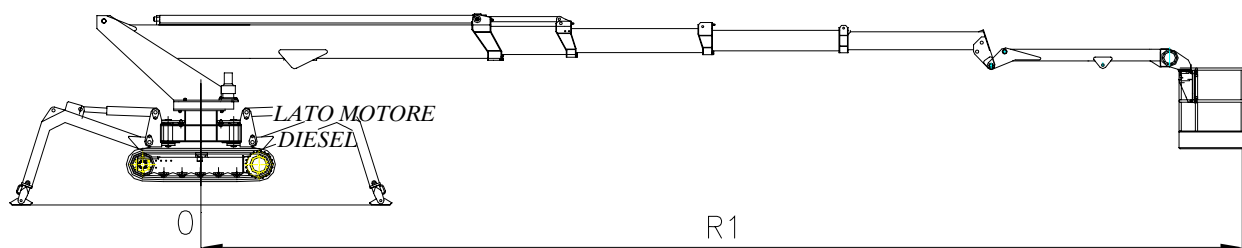

Fig. 6.8
- now check the distance from the slewing rotation centre to the edge of the cage (R1 of Fig. 6.8) is like the comparative value showed in the following table “max outreach for Ragni” with a max tolerance of 300 mm